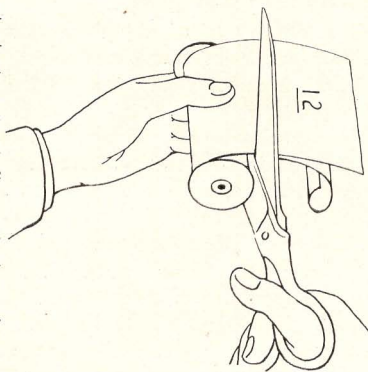

Fig. 1.
2. Unroll the film and cut the exposures apart as shown in Fig. 1.